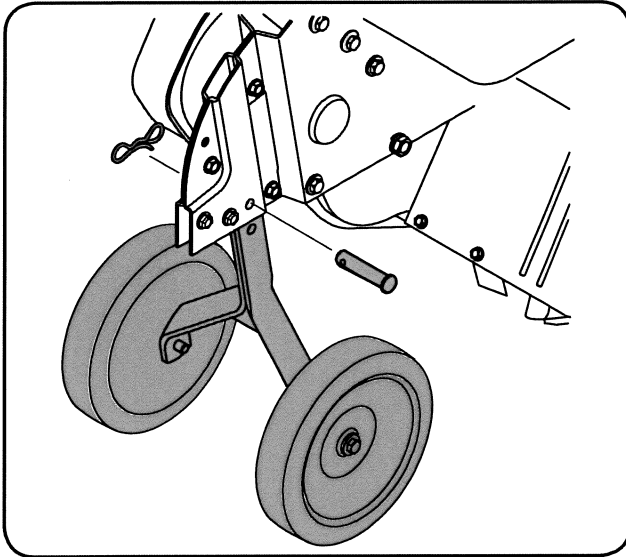

Figure 3-3
1. Remove the remaining clevis pin and cotter pin from the manual bag, install the wheel assembly into the chain case bracket as shown in Figure 3-3.